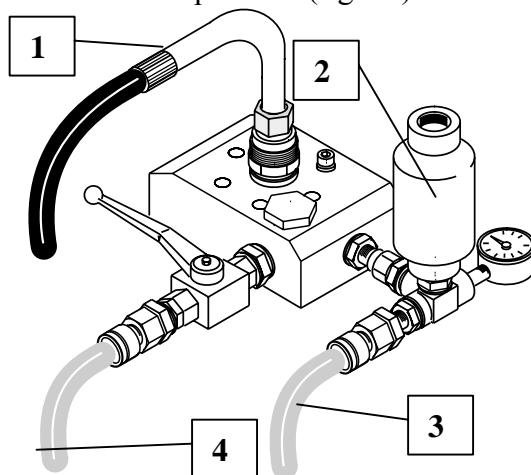

Fig.27
- 4) **NEVER** remove the product pipes while the machine is in operation (fig. 27).